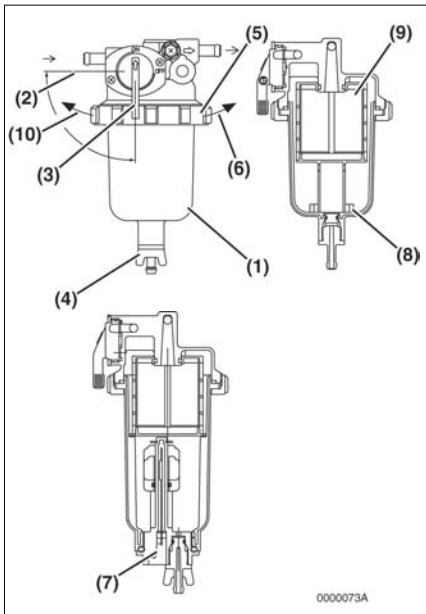

Figure5-16
1. Position an approved container under the cup (**Figure5-16, (1)**) of the fuel filter/water separator to collect the contaminants.
2. Close (**Figure5-16, (2)**) the fuel cock (**Figure5-16, (3)**).
3. Loosen the drain cock (**Figure5-16, (4)**) and drain the contaminants. See Drain Fuel Filter/Water Separator.
4. Turn the retaining ring (**Figure5-16, (5)**) to the left (**Figure5-16, (10)**) and remove the cup (**Figure5-16, (6)**). If equipped, disconnect the sensor wire (**Figure5-16, (7)**) from the cup before removing the cup.
6. Remove the float ring (**Figure5-16, (8)**) from the cup. Pour the contaminants into the container and dispose of it properly.
7. Clean the element (**Figure5-16, (9)**) and inside cup. Replace the element if it is damaged.
11. Install the cup to the bracket by tightening the retaining ring to the right (**Figure5-16, (6)**) to a torque of 11-15 ft•lb (15-20 N•m; 1.5-2.0kg•m).
13. Open the fuel cock (**Figure5-16, (3)**).